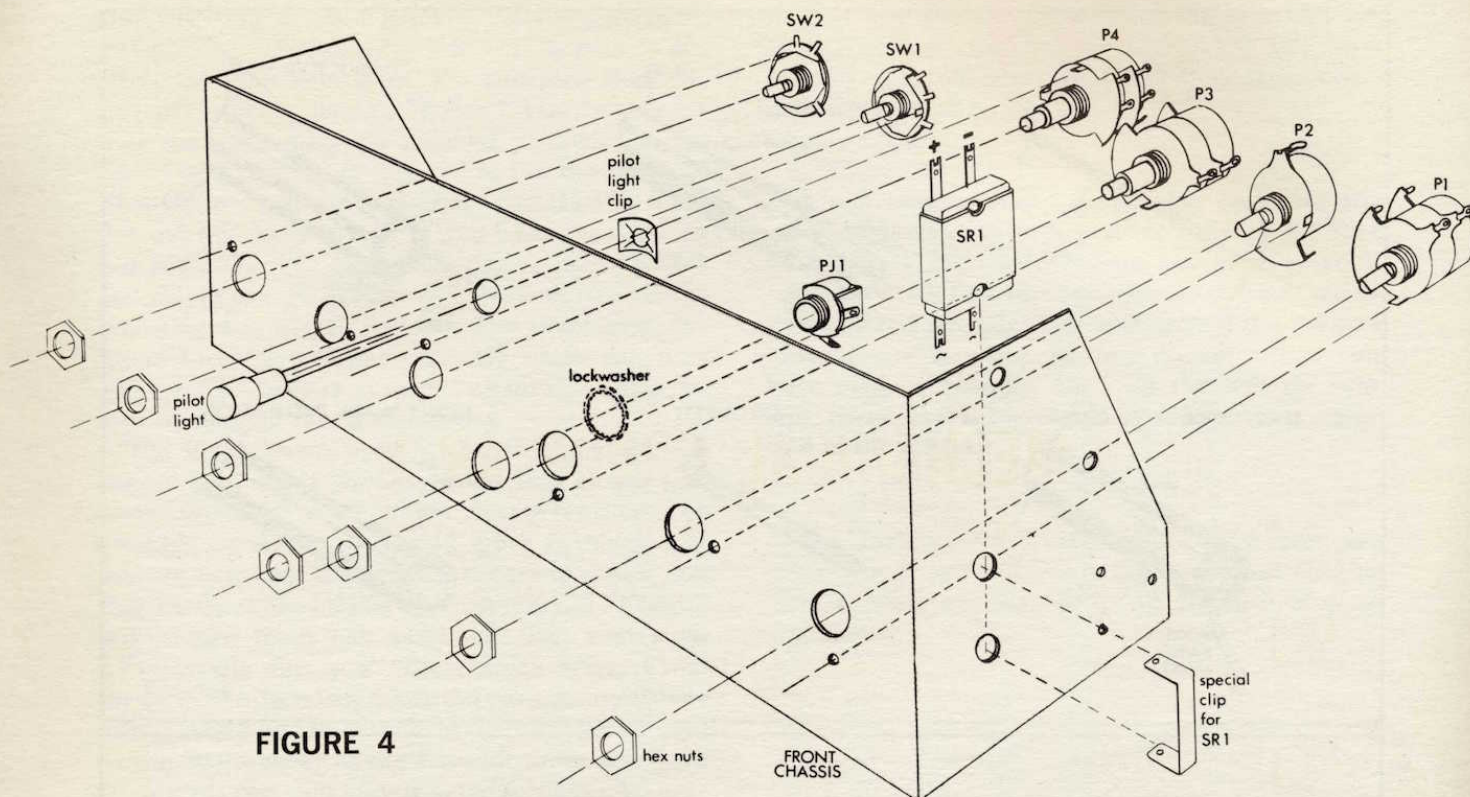

FIGURE 4
Assemble the following parts to the front chassis as shown in (Figure 4). The numbers in parenthesis are the identifying numbers and are stamped on the parts, with the exception of items 1 and 2, which have no identifying numbers. **DO NOT OVER TIGHTEN THE BRASS HEX NUTS.**
4. <input checked="" type="checkbox"/> P1 (RCVD-500KT-3FSW)	Insert as shown in (Figure 4). Align the locating lug with the small hole.